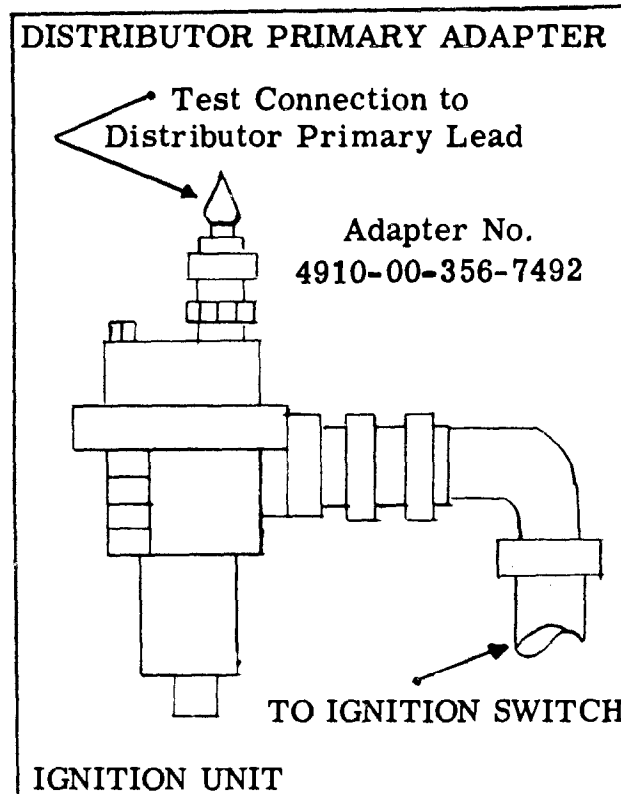

Figure 3. Distributor primary adapter (4910-00-356-7492).
- (1) Remove plug in distributor cover and screw distributor primary adapter securely into exposed hole (fig 3).